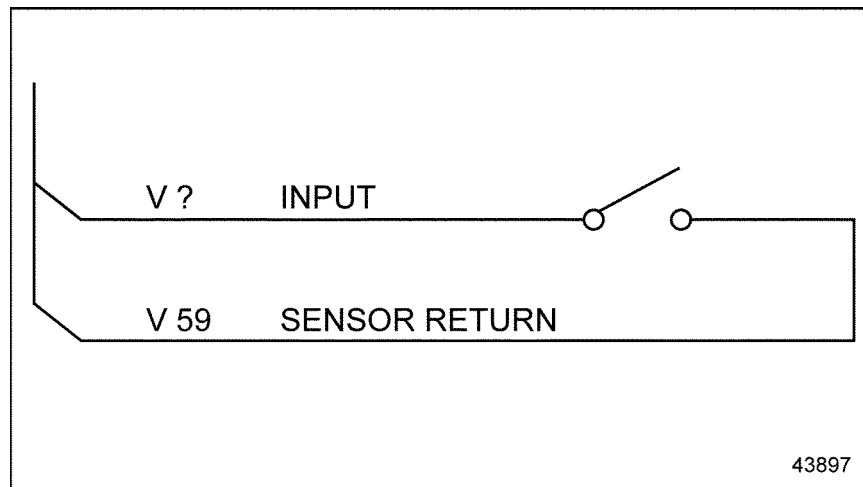

Figure 19-7 ECM/ECU-to-Input / Sensor Return
5. Observe the status when the feature is active (or supposed to be active). See Figure 19-7.